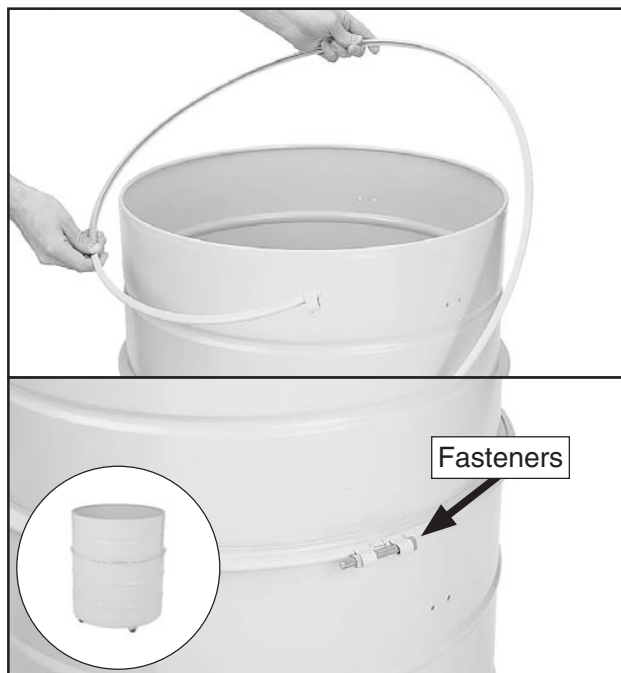

Figure 31. Installing metal clamp around collection drum.
15. **Model G0441:** Connect the upper and lower collection drums together and secure them with the included metal clamp and provided fasteners, as shown in **Figure 31**.